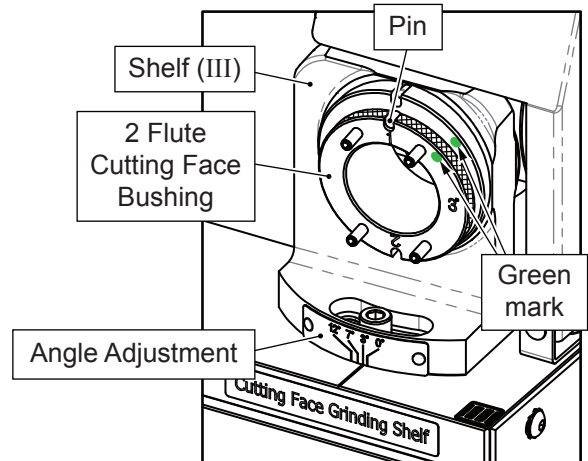

Fig. 7-2
2. Cutting Face Grinding Shelf (III) (Fig. 7-2)
- ① Adjust Shelf (III) to 3° .
- ② Insert 2 Flute Cutting Face Bushing to Shelf (III), align the ● Green mark of the Bushing with the ● Green mark on the shelf, then insert it to the end.